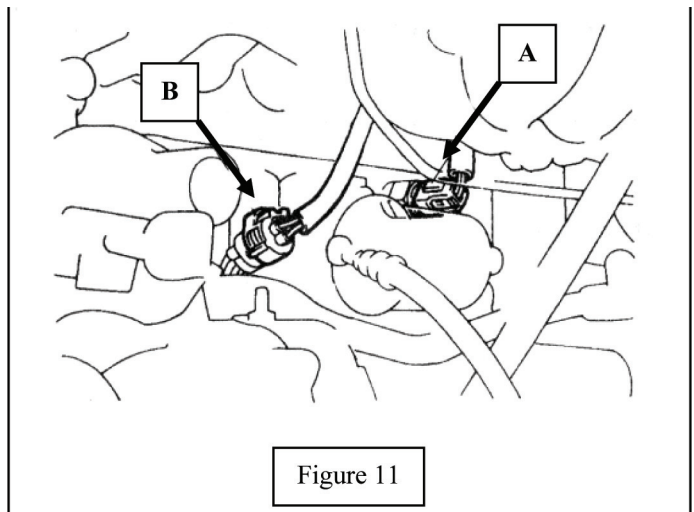

Figure 11
29. Disconnect the detonation sensor connector (A), and the crankshaft position sensor connector (B). See Figure 11. Both connectors are located next to the engine block, and below the intake manifold.